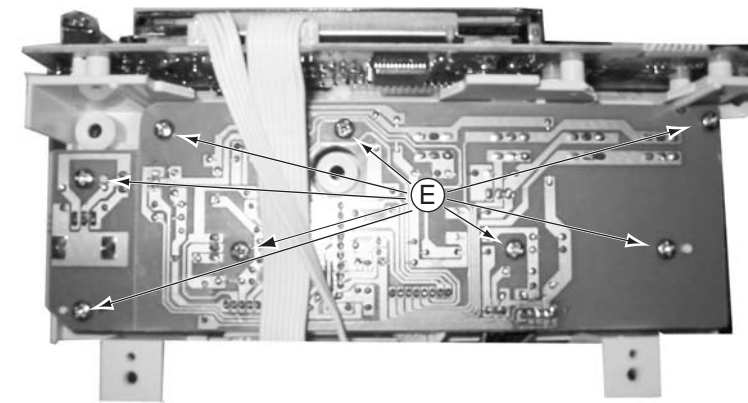

Figure 8
- 3) Loosen 7 screws "E" on the button bottom of the key board 2 as shown in figure 8.